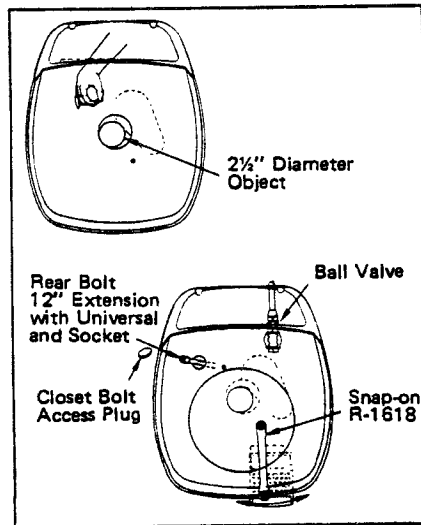

Fig. 1
3. Rear Bolt Nut: You assemble the rear closet bolt flange nut by reaching your right hand through the rear access hole (shown in Fig. 1). The header points on the closet bolts will help start the nut. Tighten the nut until the base of the toilet contacts the floor.
*NOTE: If the space around the toilet does not permit the above method, access to the rear nut can be gained by removing the access plug (Shown in Fig. 1). Plug is removed by pressing down on the plug's edge closest to the bowl. You assemble the rear closet bolt flange nut by reaching through the access hole with a socket, a universal and a 12" extension. The flange nut may be held in the socket with a small dab of sealer.*